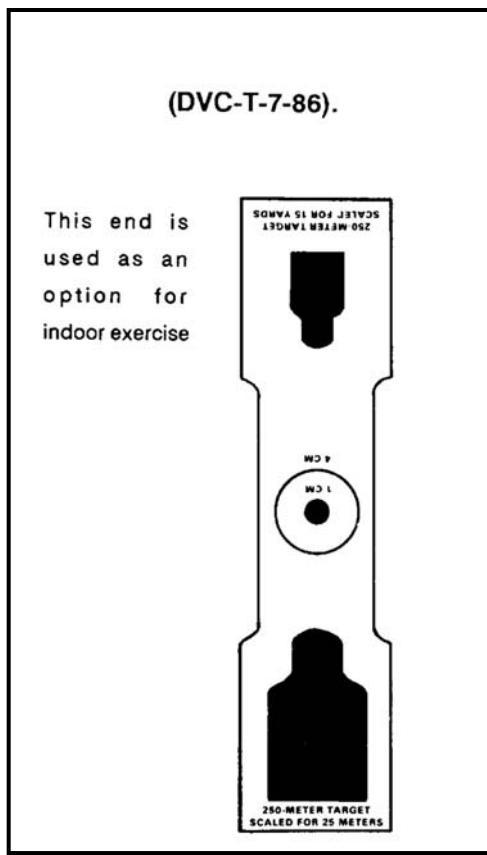

Figure A-9. Target-box paddle (DVC-T-7-86).
- (e) The silhouettes on the plastic paddle (Figure A-9) are scaled to represent an E-type silhouette target at 250 meters. The visual perception during the target-box exercise is similar to what a soldier sees while zeroing on a standard zeroing target. The small E-type